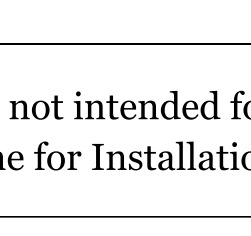

Figure 23
- Loosen the thermostatic mixer handle screw. Remove the handle. (See Figure 23.)